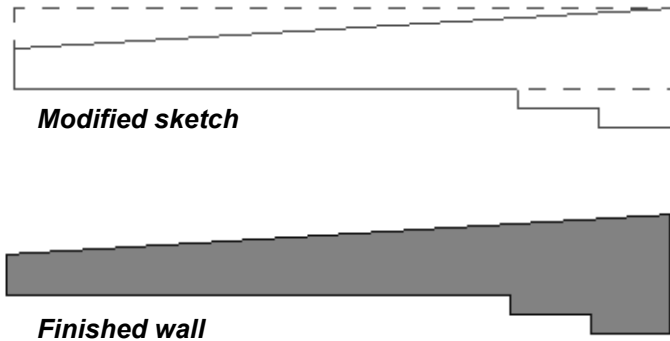

Figure 7–22
5. Once the profile is complete, click  (Finish Edit Mode). The wall now follows the new profile, as shown on the bottom in Figure 7–22.